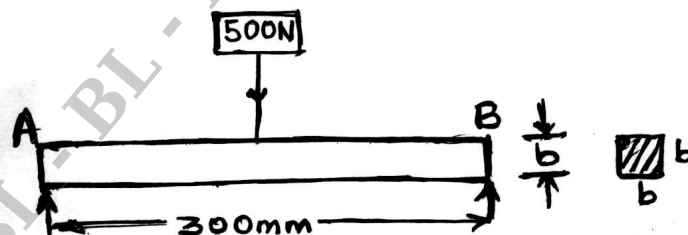

Fig Q2(b)
- b. A 500 N weight dropped through a height of 25 mm impacts the centre of a 300 mm long simply supported steel square beam. If the maximum allowable bending stress is 90 MPa, find the dimension of side of the beam and the maximum deflection. Neglect the inertia effect. Take $E = 200$ GPa, (refer Fig Q2(b)).